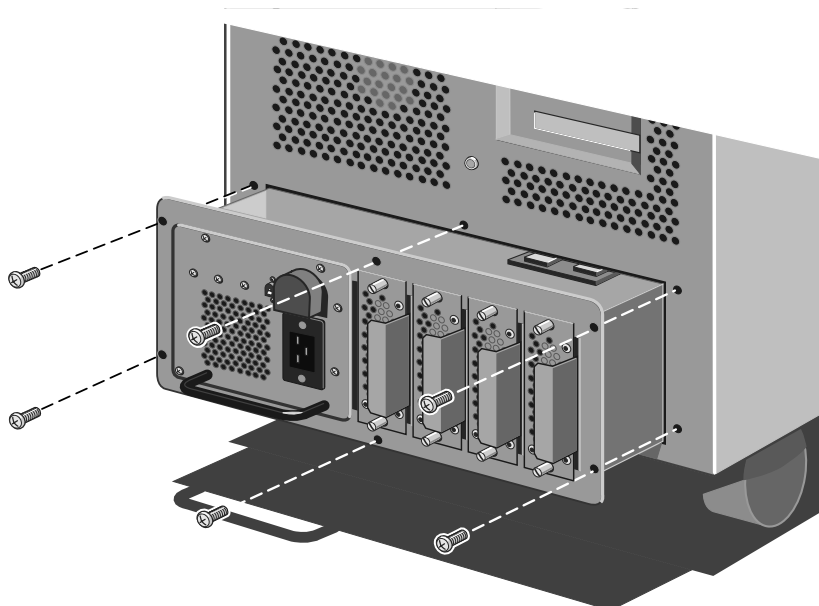

Figure 10-6 Power tray Securing Screws
4. Secure the unit to the chassis with the six screws as shown in *Figure 10-6*.